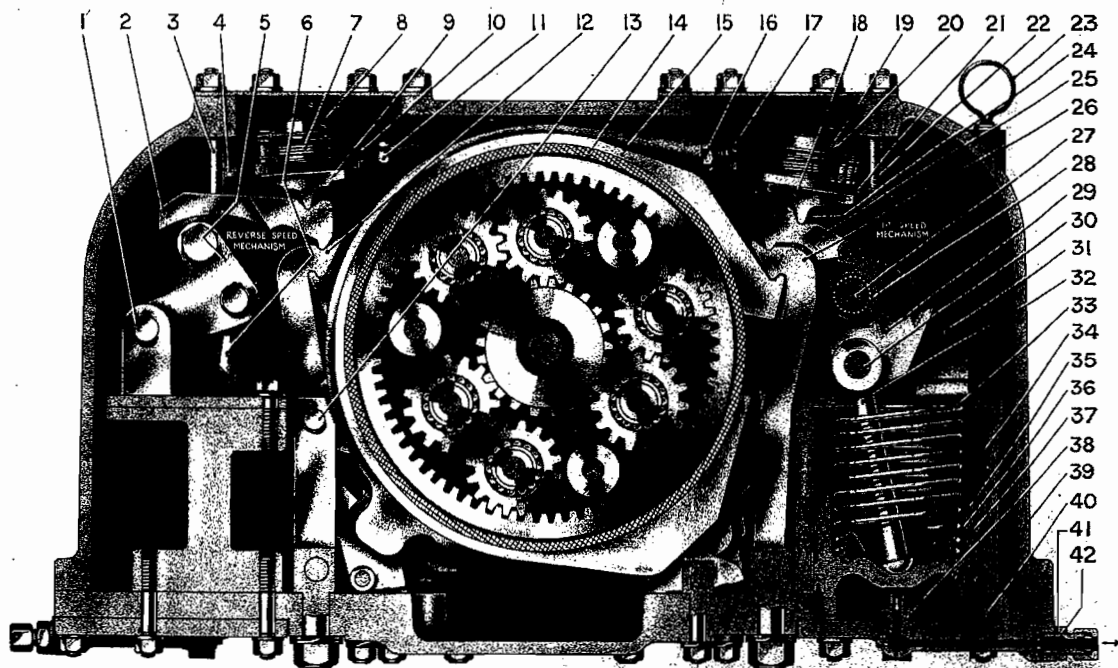

FIG. 15 SECTION THROUGH THE 1st SPEED GEAR (brake OFF)
**Note:** Refer to Fig. 15 when dismantling and re-assembling the brake bands.
1. Unscrew the adjuster nut (8) from each adjuster mechanism, using Service Tool Part LC134.
2. Support the adjuster ring (21), table (18) and the thrust pad (2) as the adjuster nut leaves the thread of the pull rod (24).
3. Press down the top of each brake band to remove the hooks (12) and (26).